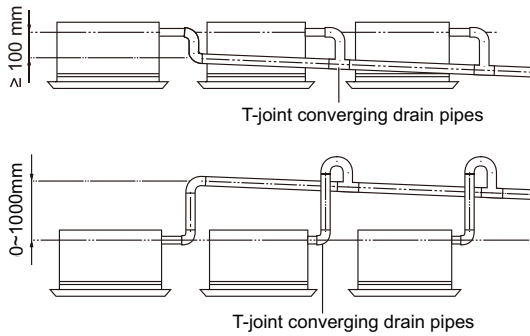

Fig.17
(3). When unifying multiple drain pipes, install the pipes as Fig.17. Select converging drain pipes whose gauge is suitable for the operating capacity of the unit.(take the cassette type unit for example)